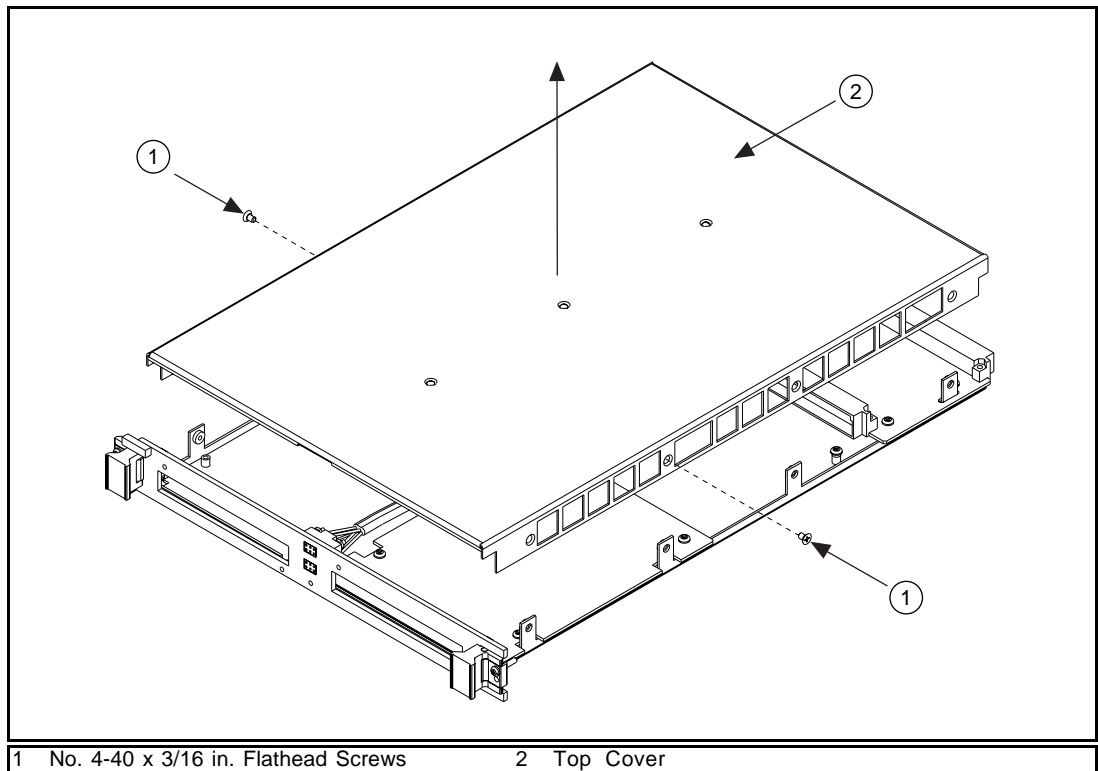

Figure 3. Removing the VXI-SC-1000 Cover
1. To remove the top cover, remove the two flathead screws that hold the top cover in place and lift the cover straight up. Keep the screws in a safe place; you will need them to complete your assembly. See Figure 3 for the locations of these screws.